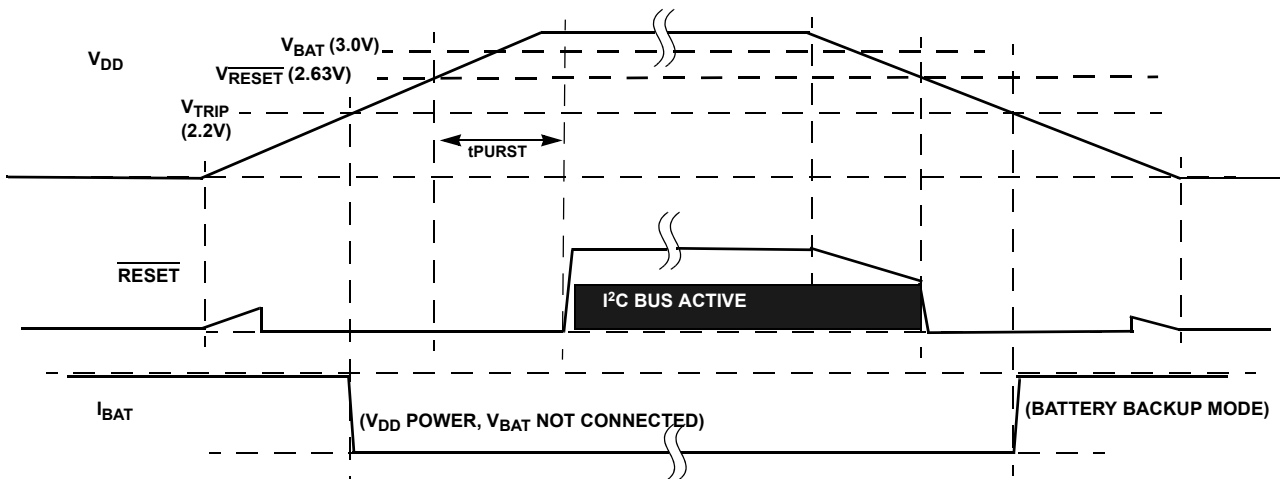

FIGURE 29. EXAMPLE RESET OPERATION IN MODE A OR C
- Mode A - In this mode, selection bits indicate a low VDD switchover combined with I²C operation in battery backup mode. In actuality the VDD will go below $V_{\overline{RESET}}$ before switching to battery backup, which will disable I²C ANYTIME the device goes into battery backup mode. Regardless of the battery voltage, the I²C will work down to the $V_{\overline{RESET}}$ voltage (see Figure 29).
- Mode C - In this mode, the selection bits indicate a low VDD switchover combined with no communications in battery backup. Operation is actually identical to Mode A with I²C communications down to $V_{DD} = V_{\overline{RESET}}$, then no communications (see Figure 29).